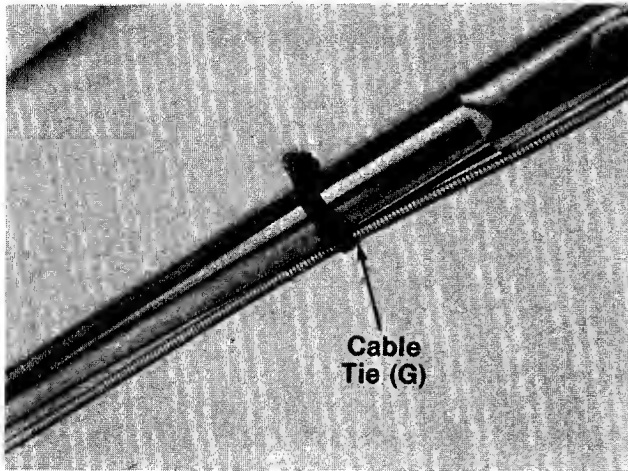

**FIGURE 10.**
- b. Slide the braided wire around in the horizontal slot. See figure 10.
- d. Secure the plastic cap (E) to the clutch control housing using the two Phillips head screws (F). See figure 10.